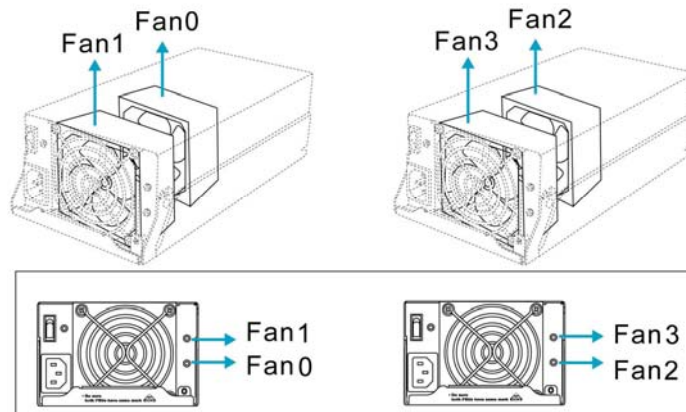

Figure 3-17: Cooling Module LEDs and Cooling Fan Locations
Each individual cooling fan within the cooling module has one (1) red LED on the PSU module. The LED corresponds to the single fan in the cooling module. (See *Figure 3-17*) When the LED is on, it indicates the fan has failed. When the LED is off, it indicates the fan is functioning properly.